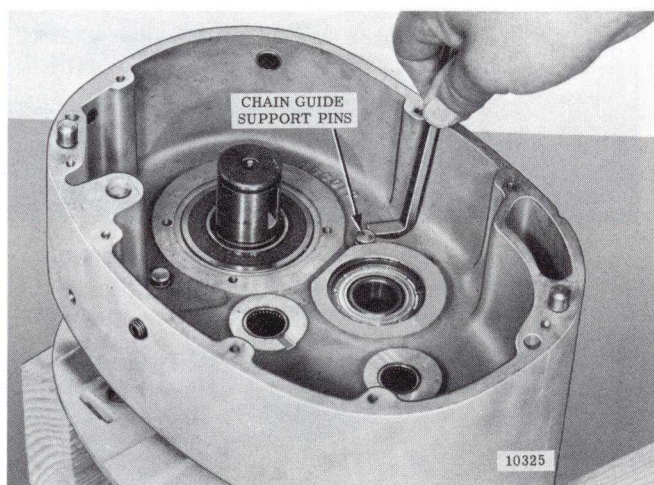

Figure 7-16. Removing Chain Guide Support Pins Using Pry Bar.
(3) Using suitable pry bar (fig. 7-16) partially raise three chain guide support pins from their bores in frame. Pull them the rest of the way out using pliers with jaws protected to avoid damaging pins. Remove and discard two "O" ring gaskets from grooves on each support pin.